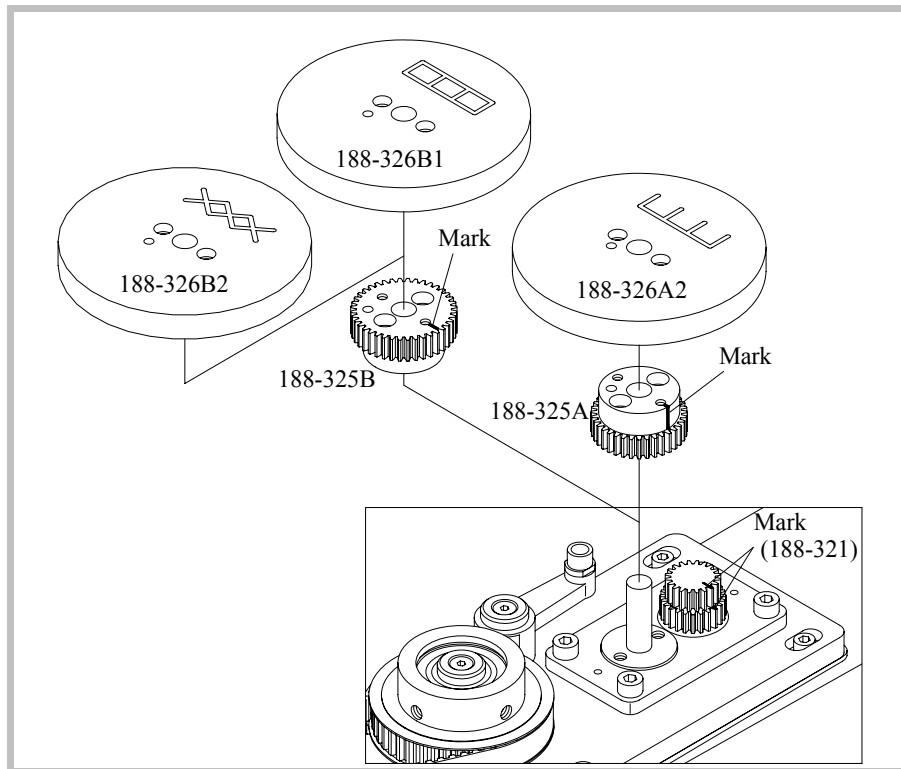
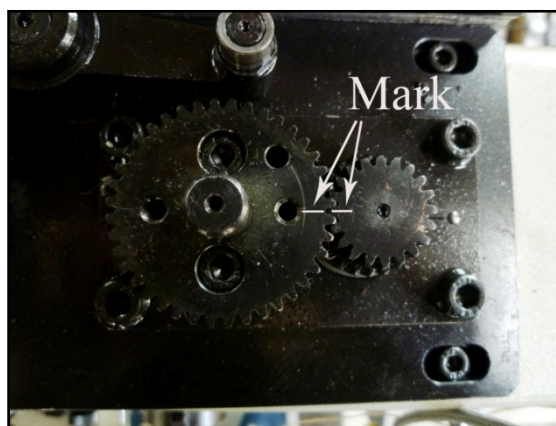

Fig.4
Fig.5
4.1.1 Change and set the needle-change cam (Fig.4, Fig.5)
The needle-change cam (188-326A2 or 188-326B1, 188-326B2) must match up the gear (188-325A or 188-325B). **The needle-change cam (188-326A2) must match up the gear (188-325A), and the needle-change cam (188-326B1 or 188-326B2) must match up the gear (188-325B), as shown in Fig.4.**
If the gear (188-325A or 188-325B) need to be changed, the mark on the gear(188-325A or 188-325B) must point to the mark on the gear(188-321) when setting., as shown in Fig.5.